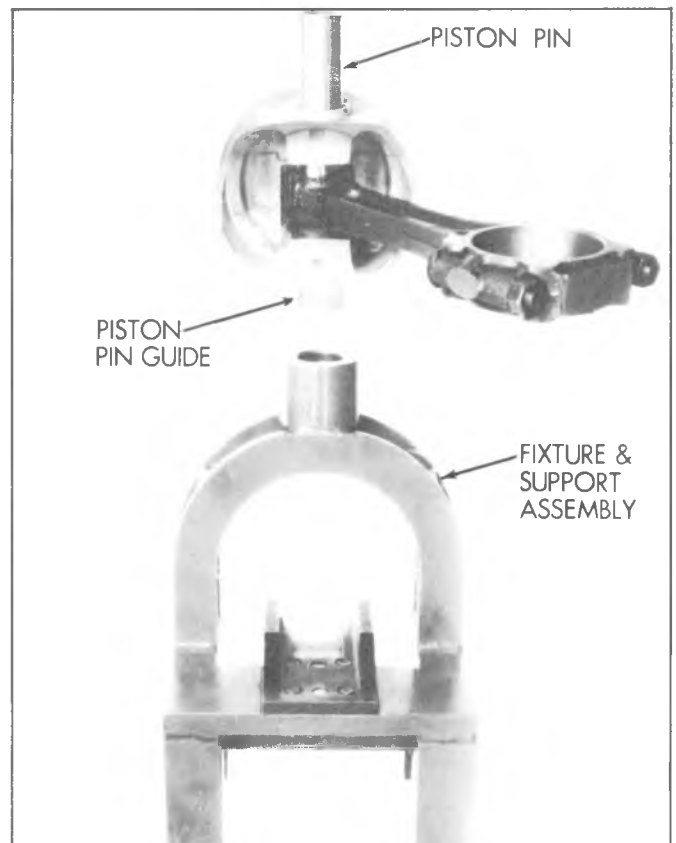

Fig. 6A-62--Piston Assembly Fixture Support Assembly
3. Using piston pin installer, J-24086-9, press the piston pin into the piston and connecting rod (Fig. 6A-64).
NOTE: The piston pin installer is a variable insertion length tool designed to be applicable to all GM piston assemblies. The insertion length is varied by rotating the hub on the shaft much like adjusting a micrometer. An alpha-numeric scale is used to determine the desired length for a given piston pin assembly. Refer to figure 6A-63 for correct setting.